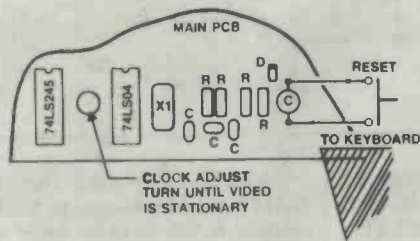

Figure 3. 74LS04 on VZ200.
(See Figure 3 for the VCZ200 location. In the VZ300, the variable capacitor is located inside an rf shield to the right of the CPU. In both cases, a hole has been punched in the rf shield for access.)
4. RESET. Locate the 10μF capacitor on the 74LS04 (see Figure 3; this is the same IC as is used for the clock signal). Connect a pushbutton across this capacitor. When the button is depressed, the capacitor will discharge, causing a reset signal on the CPU. This has the advantage of resetting without